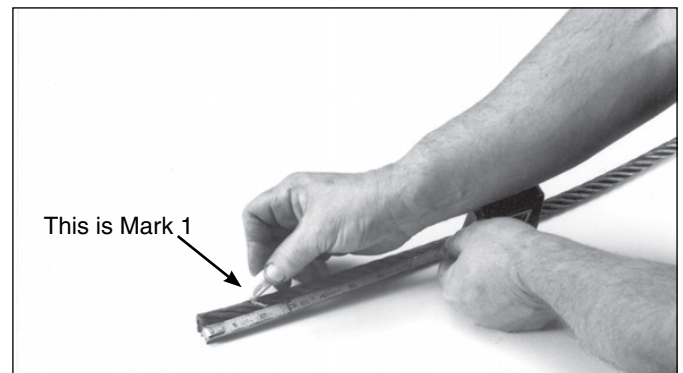

Figure 1
Step 1: To find the Pull Amount or tail, Mark 1 (See Figure 1).